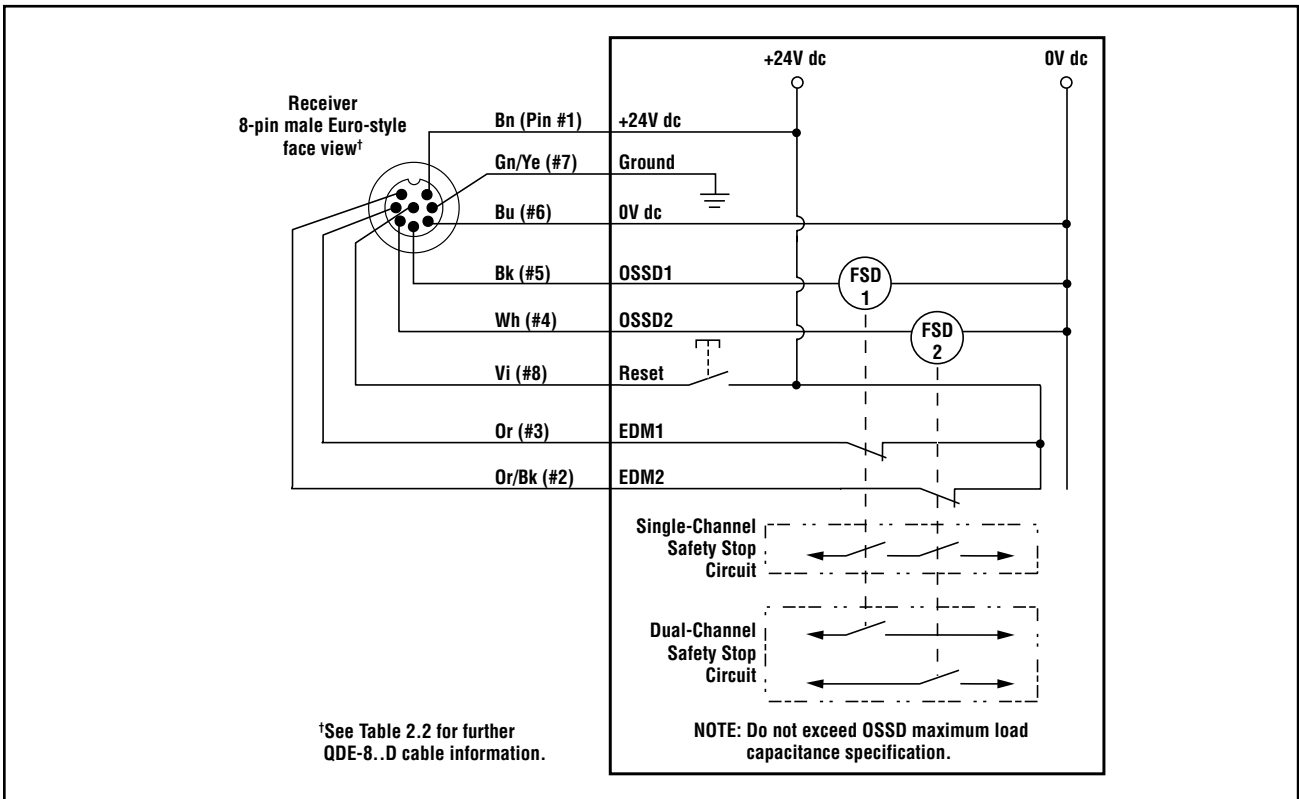

Figure 3-18. Generic hookup – FSDs (2-channel EDM, manual reset)
Final Switching Devices (FSDs) typically accomplish this when the OSSDs go to an OFF state. See Figure 3-18.
A safety stop allows for an orderly cessation of motion for safeguarding purposes, which results in a stop of motion and removal of power from the MPCEs (assuming this does not create additional hazards). A safety stop circuit typically comprises a minimum of two normally open (N.O.) contacts from forced-guided, mechanically linked relays, which are monitored (through External Device Monitoring) to detect certain failures in order to prevent the loss of the safety function. Such a circuit can be described as a "safe switching point." Typically, safety stop circuits are either single-channel, which is a series connection of at least two N.O. contacts; or dual-channel, which is a separate connection of two N.O. contacts. In either method, the safety function relies on the use of redundant contacts to control a single hazard (if one contact fails ON, the second contact will arrest the hazard and prevent the next cycle from occurring). See Figure 3-18.
External Device Monitoring: It is strongly recommended that one normally closed, forced-guided monitoring contact of each FSD and MPCE be connected to EDM inputs (see Figures 3-18, 3-19, and 3-20). If this is done, proper operation of the MPCEs will be verified. Monitoring MPCE contacts is one method of maintaining control reliability.
If not connected previously, it is again strongly recommended that one normally closed, forced-guided monitoring contact of each FSD and MPCE be wired as shown in the monitoring circuit (see Figures 3-18, 3-19, and 3-20). If this is done, proper operation of the FSDs and MPCEs will be verified. Monitoring MPCE contacts is one method of maintaining control reliability. (See the Note Regarding External Device Monitoring below).
- **Two-Channel Monitoring** is a separate connection of closed monitor contacts that are forced-guided (mechanically linked) from each device controlled by the EZ-SCREEN. The monitoring contacts should always change state (both open or both close) within 200 milliseconds of the corresponding OSSD state change (turning ON or OFF) or a Lockout will occur (see Diagnostics, Section 5.1). Refer to Figures 3-18 or 3-19 for 2-channel EDM hookup. Connect the monitor contacts as shown between +24V dc and EDM1 (pin 3) and between +24V dc and EDM2 (pin 2). Set the configuration DIP switch to E2, per Section 4.2.